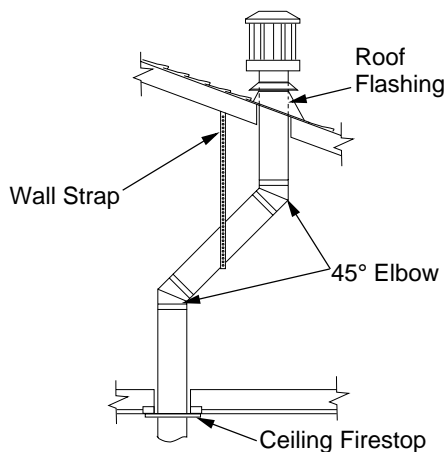

Figure 29 - Offset with Wall Strap and 45° Elbows
For two-story applications, firestops are required at each floor level. If an offset is needed in the attic, additional pipe and elbows will be required (see Figure 29, page 15).
1. Determine the route your vertical venting will take. If ceiling joists, roof rafters, or other framing will obstruct the venting system, consider an offset (see Figure 29) to avoid cutting loadbearing members. **Note:** Pay special attention to these installation instructions for required clearances (air space) to combustibles when passing through ceilings, walls, roofs, enclosures, attic rafters, etc. Do not pack air spaces with insulation. Also note maximum vertical rise of the venting system and any maximum horizontal offset limitations. Offsets must fall within the parameters shown in Figure 17 on page 10.
4. Connect a section of pipe and extend up through the hole. **Note:** If an offset is needed to avoid obstructions, you must support the vent pipe every 3 feet. Use wall straps for this purpose (see Figure 29). Whenever possible, use 45° elbows instead of 90° elbows. The 45° elbow offers less restriction to the flow of the flue gases and intake air.
5. Place the flashing over the pipe section(s) extending through the roof. Secure the base of the flashing to the roof and framing with roofing nails. Be sure roofing material overlaps the top edge of the flashing as shown in Figure 29. There must be a 1" clearance from the vent pipe to combustible materials.